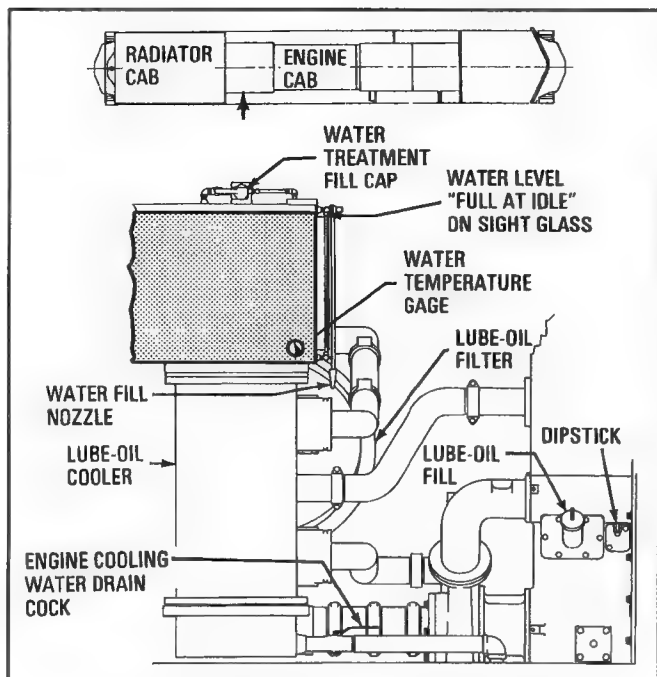

FIG. 32. ENGINE COOLING WATER SIGHT GLASS. E-34100A.
2. Water Temperature Gage – Located on the right side of the water storage tank (Fig. 32). Normal operating temperature is 188–200 F (87–93 C).
3. Cooling Water – A water level sight glass mounted on the right side of the cooling water storage tank (Fig. 32) indicates the level of the cooling water. Markings near the sight glass indicate the proper level for various conditions of the system.